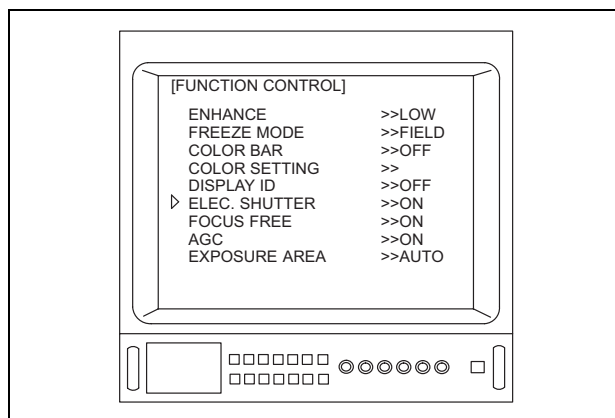

Figure 5.30
4. Depress the menu switches “” or “”, or the “↑/↓/←/→” key on the keyboard to move the arrow “” to “ELEC. SHUTTER” (see Figure 5.30).
- When the OTV-S7V is connected to the ENF-V, CYF-V/VA or HYF-V, “ELEC. SHUTTER” and “EXPOSURE AREA” shown in Figures 5.30 and/or 5.31 are not displayed.
- When the OTV-S7V is connected to the LTF-V3 or A500**A series, “EXPOSURE AREA” shown in Figures 5.30 and/or 5.31 is not displayed.
- When the OTV-S7V is connected to a camera head without the focus free function, or to a videoscope, “FOCUS FREE” shown in Figures 5.30 and/or 5.31 is not displayed.
- Depending upon the OTV-S7V’s settings, the menus shown in Figures 5.30 and/or 5.31 may appear different from those displayed on the video monitor.